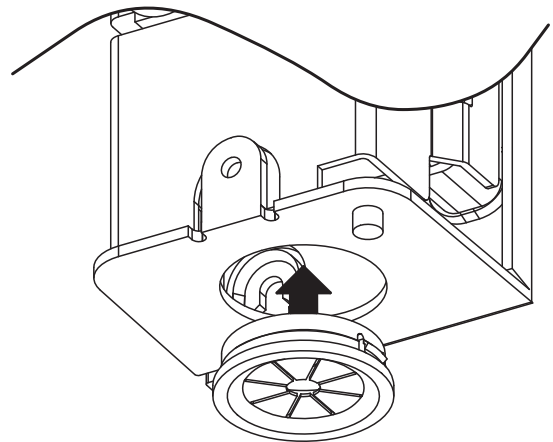

Figure 7 Attaching the grommet
For the included grommet, use the wiring port at the bottom of the main unit shown in Figure 7. If seal connectors or conduits cannot be used, use grommets. Failure to do so might cause electric shock due to touching the terminals. The grommet prevents fingers from entering into the opening in order to prevent electric shock.
- (1) Insert the grommet in the wiring port as illustrated in Figure 7.
- (2) Push the grommet until the tab clicks.
- (3) Ensure that the grommet is firmly inserted.